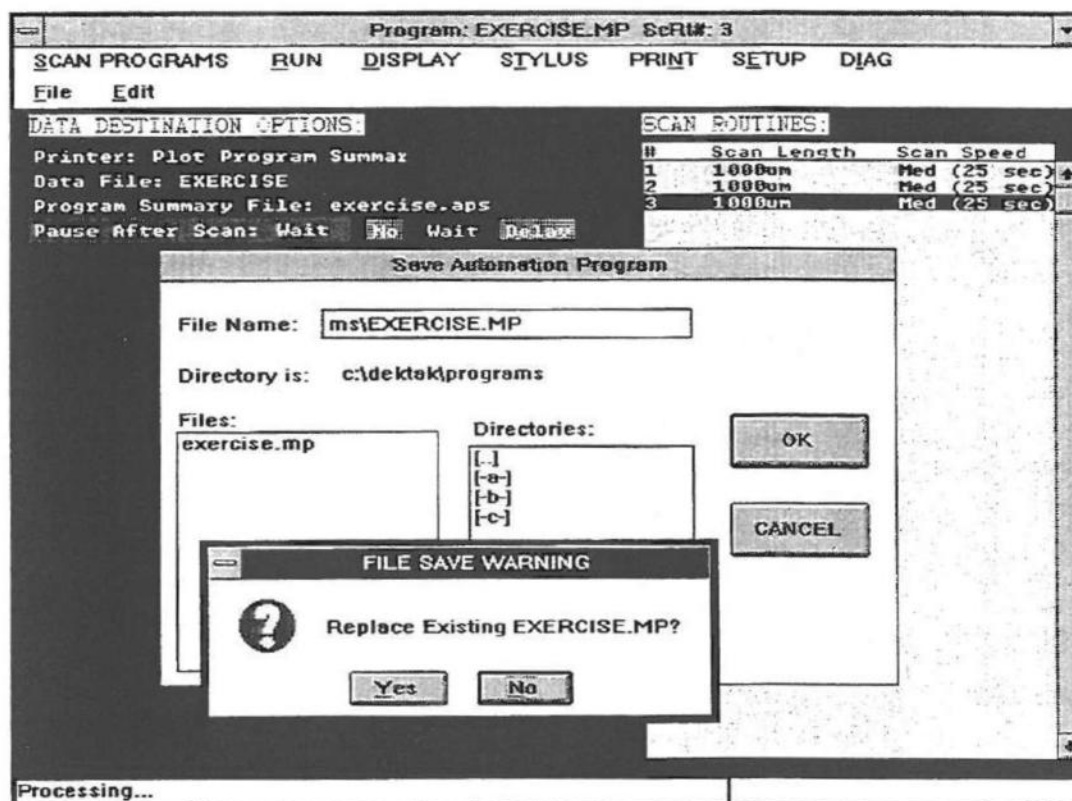

Figure 5 - 13 Replacing an Existing Multi-Scan Program
4. Click on Yes. Both windows will disappear and the new Multi-Scan program "exercise" will replace the existing program (see Figure 5 - 13).